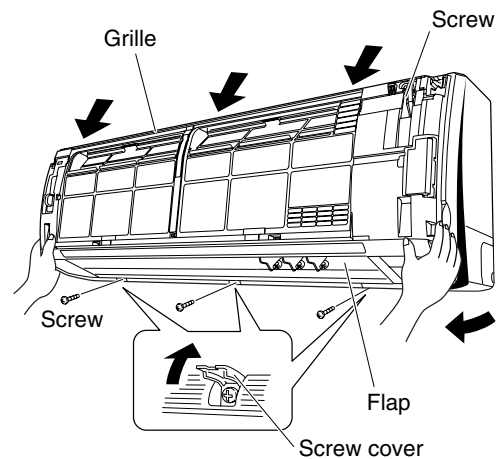

Fig. 10
- (2) Remove the screw from the top right of the main unit. Also remove the screws where the screw covers are open. (Fig. 10)
- (3) Press the 3 tabs on the top of the grille to disengage them. (Fig. 10)
- (4) Pull the grille toward you to remove it. (Fig. 10)